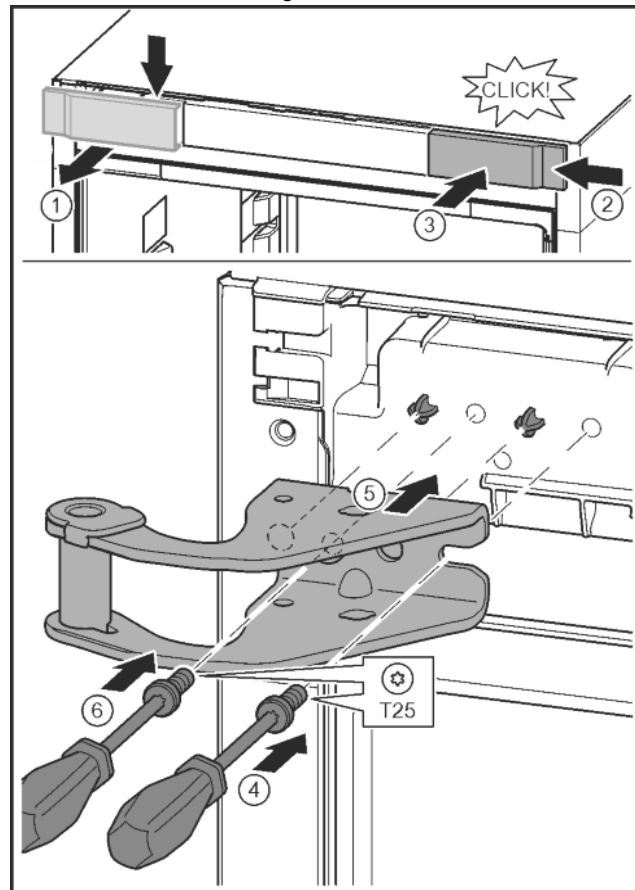

Fig. 14
- ▶ Release the cover and remove from the side. *Fig. 14 (1)*
- ▶ Rotate the cover 180° and clip onto the other side from the right. *Fig. 14 (2)*
- ▶ Click the cover into place. *Fig. 14 (3)*
- ▶ Position the screw with a T25 screwdriver. *Fig. 14 (4)*
- ▶ Position the upper bearing bracket. *Fig. 14 (5)*
- ▶ Tighten the screw. *Fig. 14 (6)*
- ▶ Insert the screw with a T25 screwdriver and tighten. *Fig. 14 (6)*